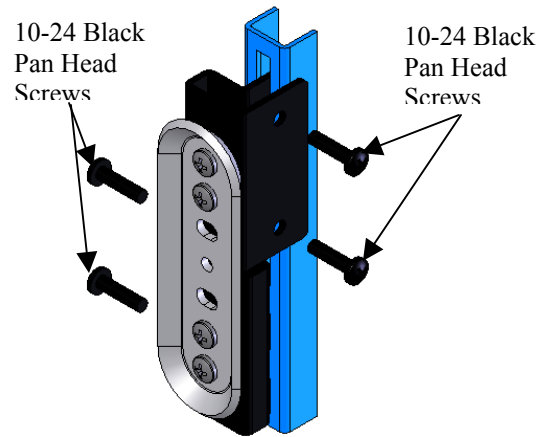

Figure 5
5. Install four 10-24 black pan head screws to secure brackets (see Figure 5).